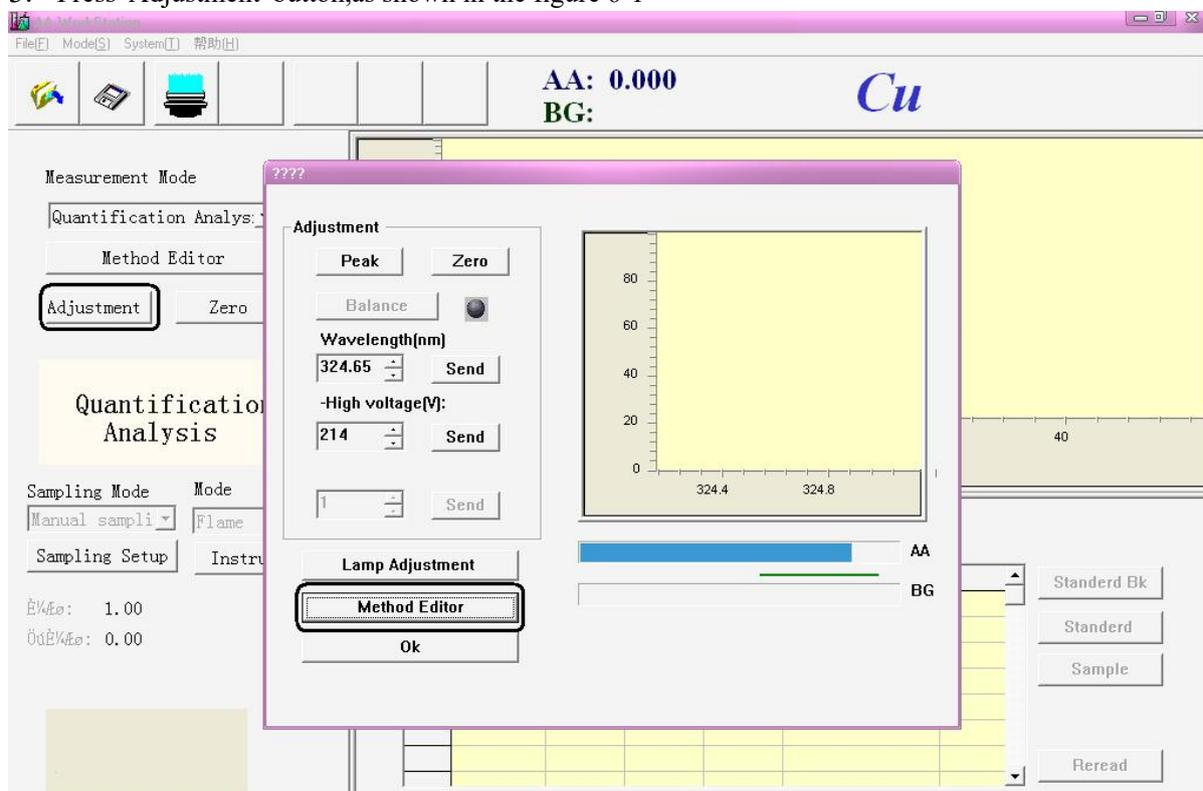

Figure 6-1
3. Press "Adjustment" button, as shown in the figure 6-1